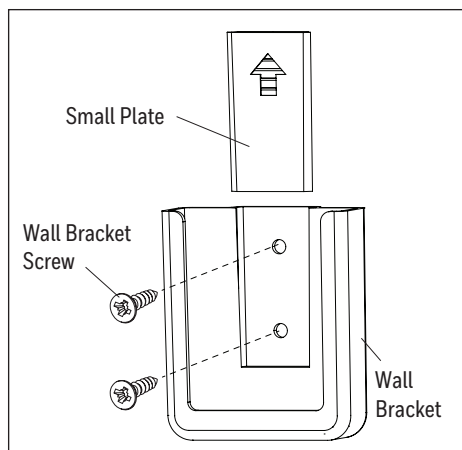

Figure 5.7
7. Remote control comes equipped with a wall bracket. If you wish to install the wall bracket, remove the small plate to expose the screw holes. Insert wall bracket screws through holes and into wall, then cover with the previously removed small plate. The remote can be stored in the wall bracket for easy access (Figure 5.7).